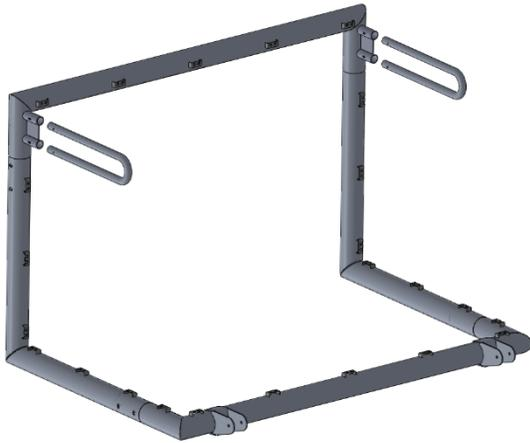

Figure 5
4. The net stays can now be inserted and secured using the 1/4-20 x 2.50" long bolts, flat washers, lock washers and nuts from the hardware kit (Fig. 5).